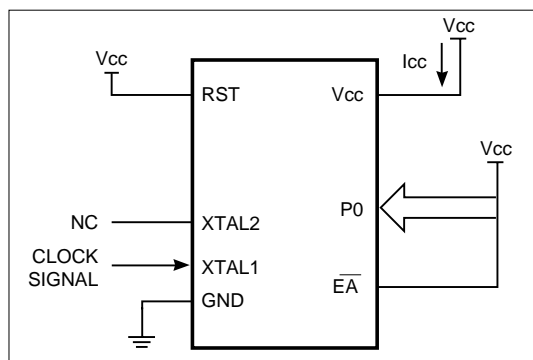

Figure 28. Active Mode
1. See Figures 28,29,30, and 31 for I_{cc} test conditions.